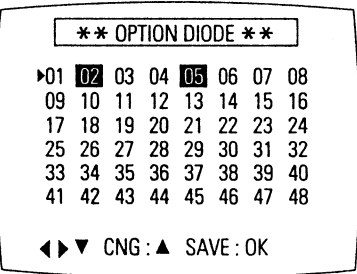

Fig. 2-4
- 2) Press the "MENU" button on the remote control about 5 seconds then option setting display is appeared. (See Fig. 2-4)
(If "PLAY" button is pressed, the selected number is changes reversed color. ; See Fig. 2-4)